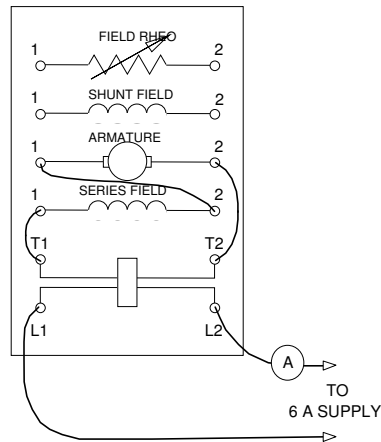

Figure 5. Series-Connected DC Motor.
- b. Connect the DM-100A as a series motor, as shown in Figure 5. The dynamometer is not electrically connected.